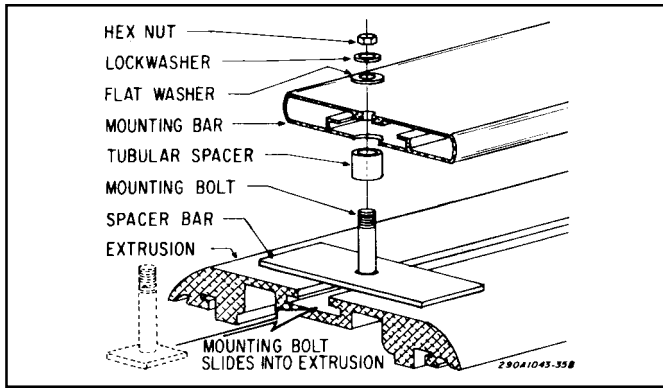

Figure 5.
5. Place two spacer bars and tubular spacers over the mounting bolts as shown in figure 5.
7. Place the mounting bar down so that the mounting bolts protrude through the mounting bar holes. Secure with flat washer, split lockwasher, and hex nut as shown in figure 5.